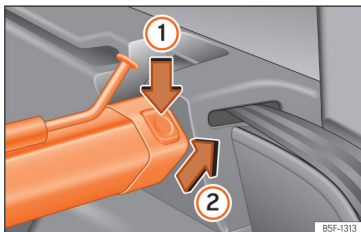

Fig. 191 In the boot: removing the partition net.
- Press the left or right release catch >>> Fig. 191 in the direction of the arrow ①.
- Remove the casing from the support in the direction of the arrow >>> Fig. 191 ②.
- Press the casing into the left and right supports in the opposite direction to the arrow >>> Fig. 191 ② until it engages. The red markings on the release buttons should no longer be visible.